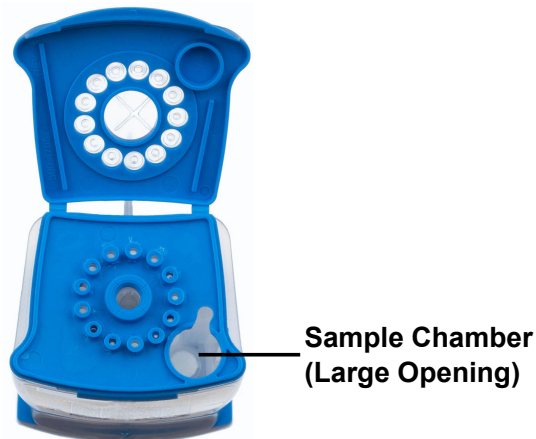

Figure 27. Xpert Xpress CoV-2 plus Cartridge (Top View)
16. To transfer the external control to the cartridge, squeeze the top bulb of the pipette completely again until it is fully flat to empty the contents of the pipette into the large opening (Sample Chamber) of the cartridge shown in Figure 27. Dispose of the used pipette.